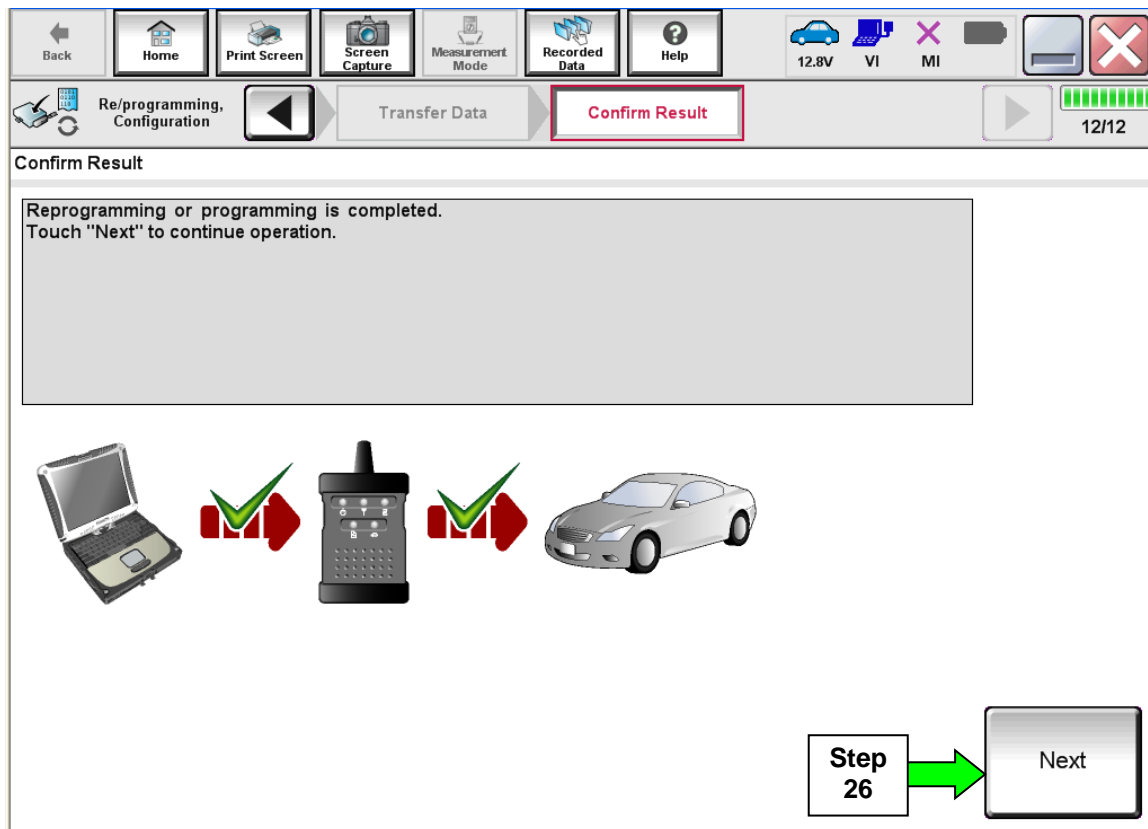

Figure 13
24. When the screen in Figure 13 displays, reprogramming is complete.
**NOTE:** If the screen in Figure 13 does not display (indicating that reprogramming did not complete), refer to TCM Recovery on the next page.